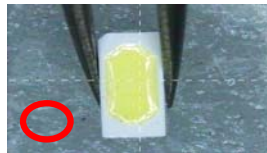

Fig. 2
- LEDs should be handled from the side due to soft sealant surface is easy to be damaged. (Fig. 2)